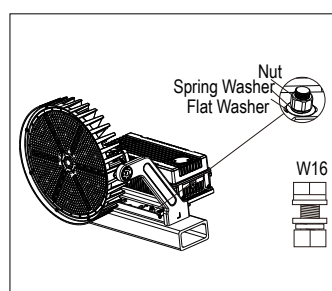

Figure 4
3. Mount the luminaire onto the crossbar and secure it using nuts, spring washers, and flat washers (Figure 4).